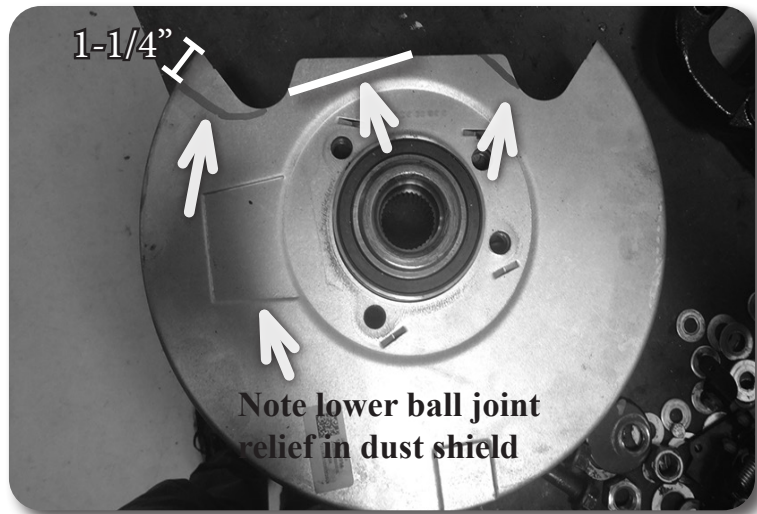

Figure 37A DRIVER SIDE SHOWN
55. The brake dust shield needs to be trimmed on both the driver and passenger sides. Measure in from the lower vertical edge 1-1/4" and make a cut as shown in Figure 37A. The upper edge will need to be cut at a 45 degree angle as shown in Figure 37A on the upper right side. Figure 37 A & B show the cut to clear the brake caliper. The cuts will be mirror images on the passenger side as to what is shown in the pictures.